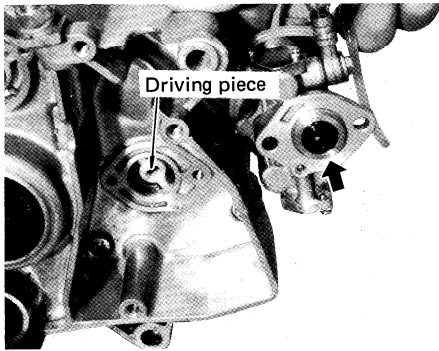

Fig. 5-5-22
17. When installing the oil pump on the crankcase, be sure to fit the driving piece on the kick starter pinion first, and then install the oil pump. (Fig. 5-5-22)